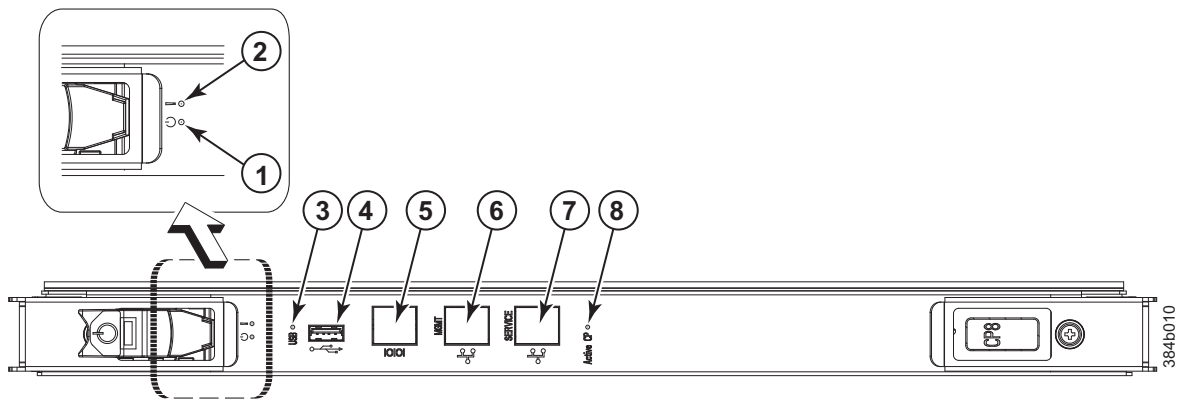

Figure 22. Control processor blade (CP8) ports and LEDs
1. Check the LED indicators on the CP blade (see Figure 22 on page 55). The LED patterns may temporarily change during POST and other diagnostic tests. For information about how to interpret the LED patterns, see Table 9 on page 55.
Figure 22 shows the control processor blade (CP8) and component parts.